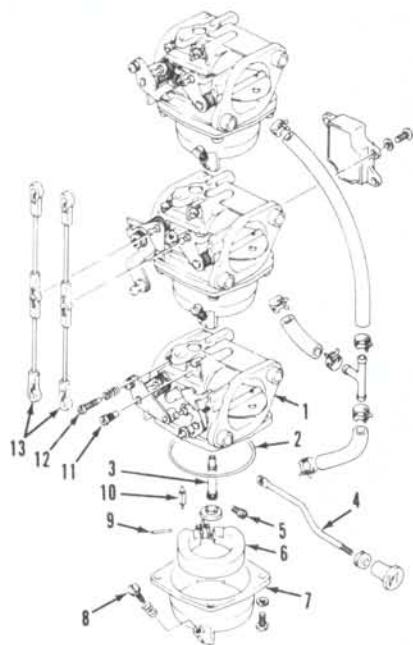

Fig. SZ11-35—Exploded view of Mikuni B26-20 carburetors used.
CARBURETOR. Three Mikuni B26-20 carburetors are used. Refer to Fig. SZ11-35 for exploded view. Initial setting of pilot air screw (12) is 1½ to 2 turns out from a lightly seated position. Final adjustment should be made with engine at normal operating temperature and running in forward gear. Adjust idle speed with idle speed switch located on outside of lower cover so engine idles at approximately 650-700 rpm. Adjust pilot air screw so engine idles smoothly and will accelerate cleanly without hesitation. Readjust idle speed to 650-700 rpm is necessary.